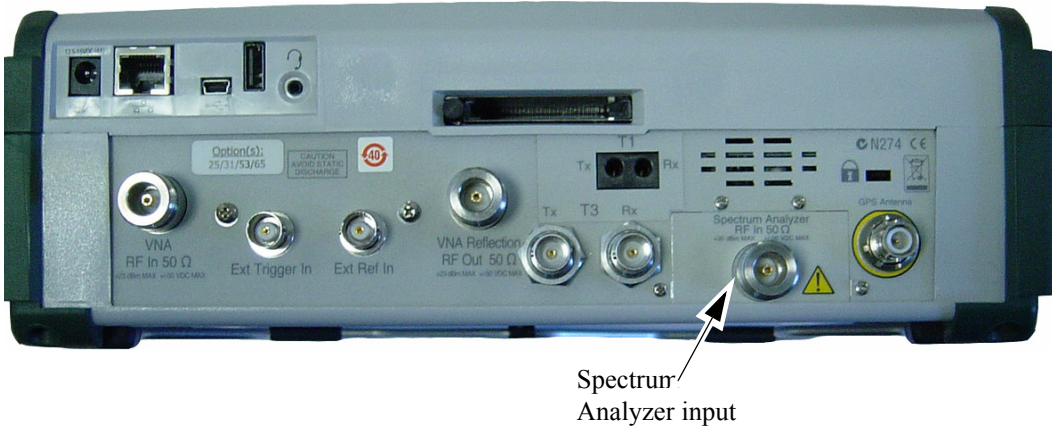

Figure 22-3. BTS Master Connections – Spectrum Analyzer RF in
1. Attach the antenna to the Spectrum Analyzer connector on top of the instrument (refer to Figure 22-3).